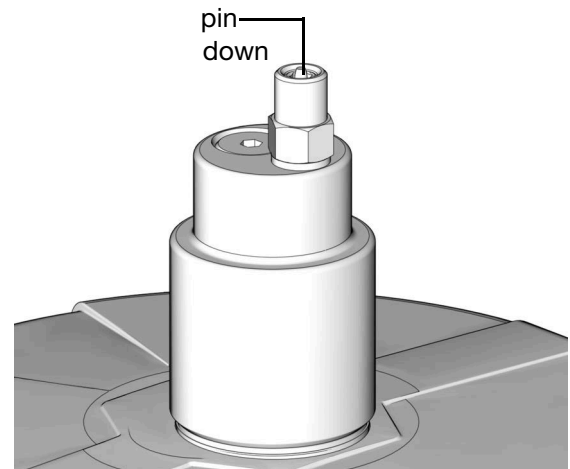

FIG. 17
1. Pull out and hold the Pressure Relief Knob (T) long enough to relieve line pressure between Fill Manifold (N) and Auto-Fill Shut Off Valve (B).
2. Verify the Auto-Fill Shut Off (B) pin is down, indicating it is reset (FIG. 17).